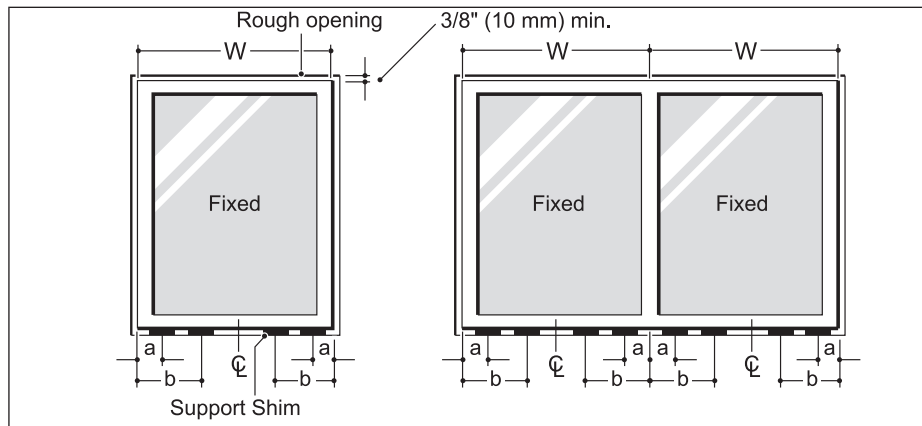

Figure 1-1. Where to put the support shims - Fixed Windows
- 2.4 Shim sill of window on the corners and on both sides of any mullions with 4" x 1 1/2" shims (See figs. 1-1, 1-2, 1-3). **Adjust the height of the shims to obtain a level sill**, ensuring you have 3/8" gap at the head (inter-storey deflection not to exceed $\pm 3/8"$). Shim the jamb on casement (See fig. 1-2)